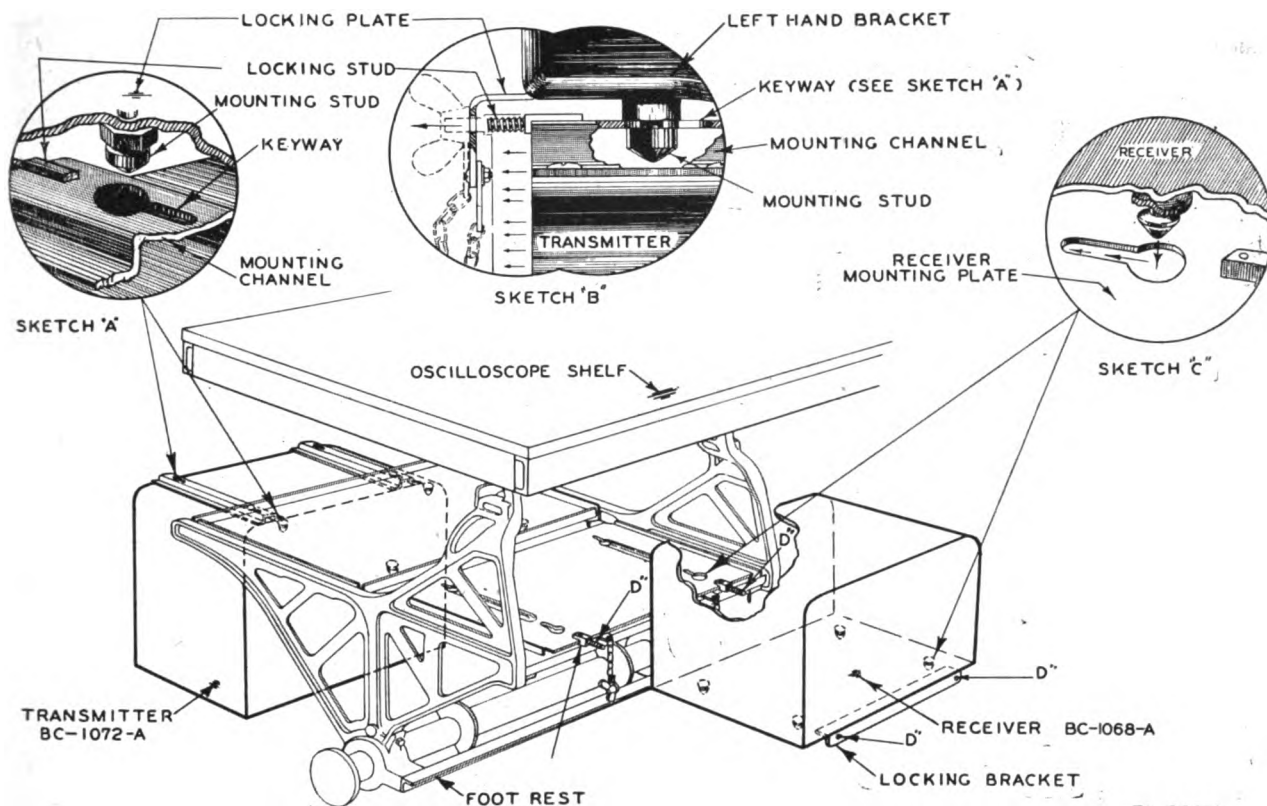

Figure 23. Assembly drawing showing method of mounting transmitter and receiver.
a. With the front of the transmitter towards the operator, lift the unit by the four folding handles into position on the mounting brackets so that the four slotted keyways in the top of the transmitter case are directly beneath the four mounting studs on the transmitter shock mounting plate, sketch A (fig. 23).
b. Raise the transmitter until the studs slip into position in the keyways and pull towards the back of Radio Set SCR-268 until the two  $\frac{1}{4}$ " x 20 studs (welded to the mounting channel of the transmitter case) protrude through the two holes in the locking bracket of the shock mounting plate (fig. 23 sketch B).
b. Place the four mounting studs on the receiver case in the four slotted keyways on the receiver shock mounting plate (fig. 23 sketch C). Push the receiver back until the two  $\frac{1}{4}$ -inch x 20 studs D, welded to the lower section of the shock mounting plate, protrude through the two holes in the locking bracket of the receiver case, figure 23.